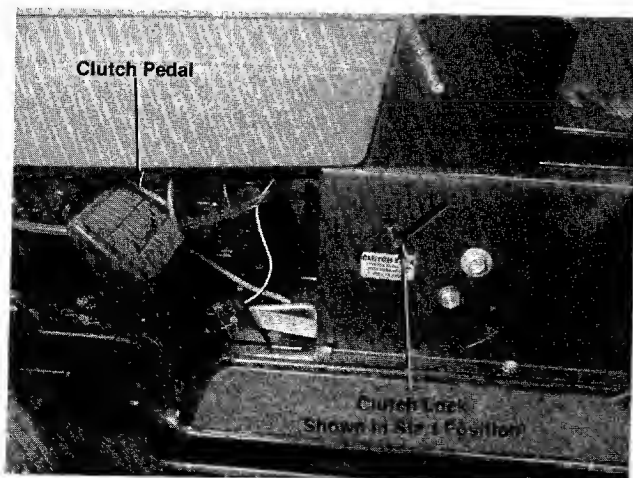

FIGURE 9.
**e. Clutch Pedal.** The clutch pedal is used to disengage the drive mechanism. Depressing the clutch pedal at any time will reduce mower speed. If depressed all the way, it will stop the mower. See figure 9.
**f. Clutch Lockout.** When the clutch pedal is depressed all the way it can be locked by placing the clutch lockout in the START position as shown in figure 9. The clutch lockout must be in this position before the engine will start.
- Step 2. Place the clutch lockout in the START position. See figure 9.